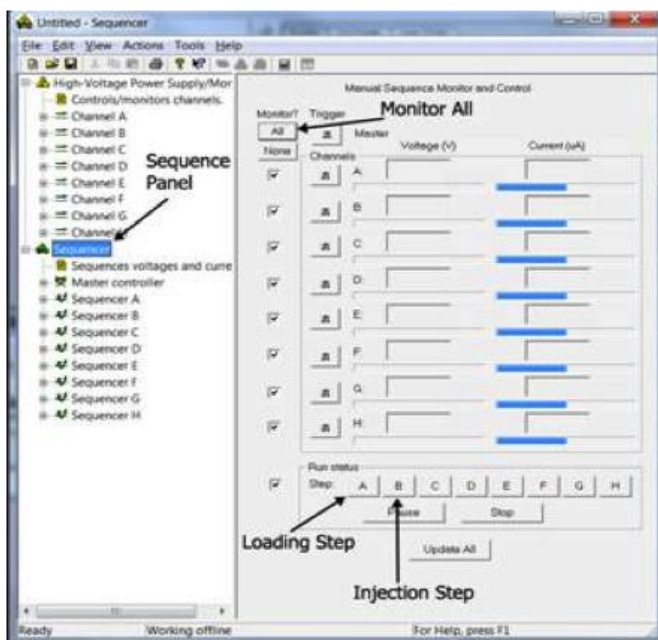

Figure 6. Picture of Sequence™ Software screen when running Load and Inject sequences.
- Now it's time to run the sequence. Press **A** to run the **Load** voltage sequence. Press **B** to run the **Inject** voltage sequence (Figure 6).